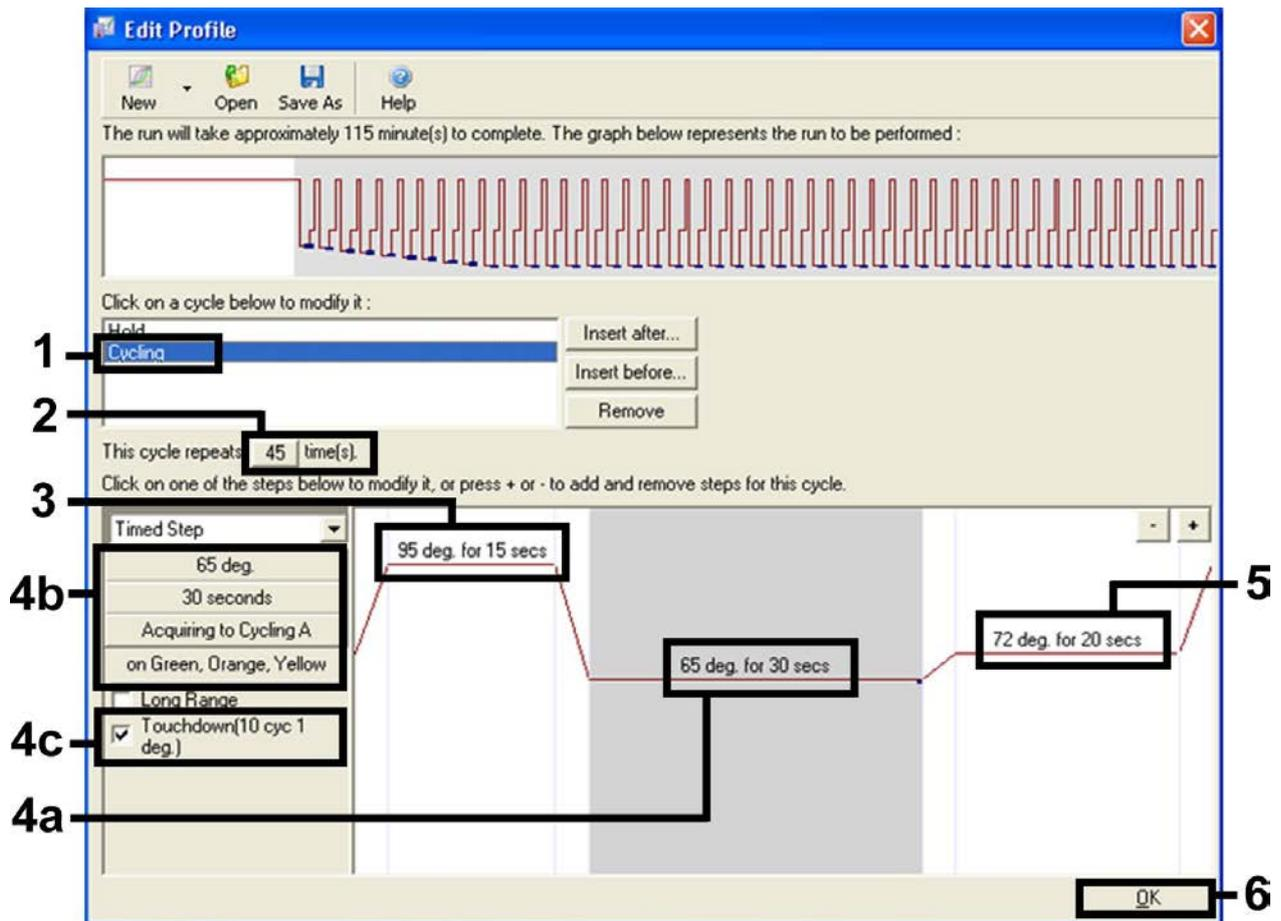
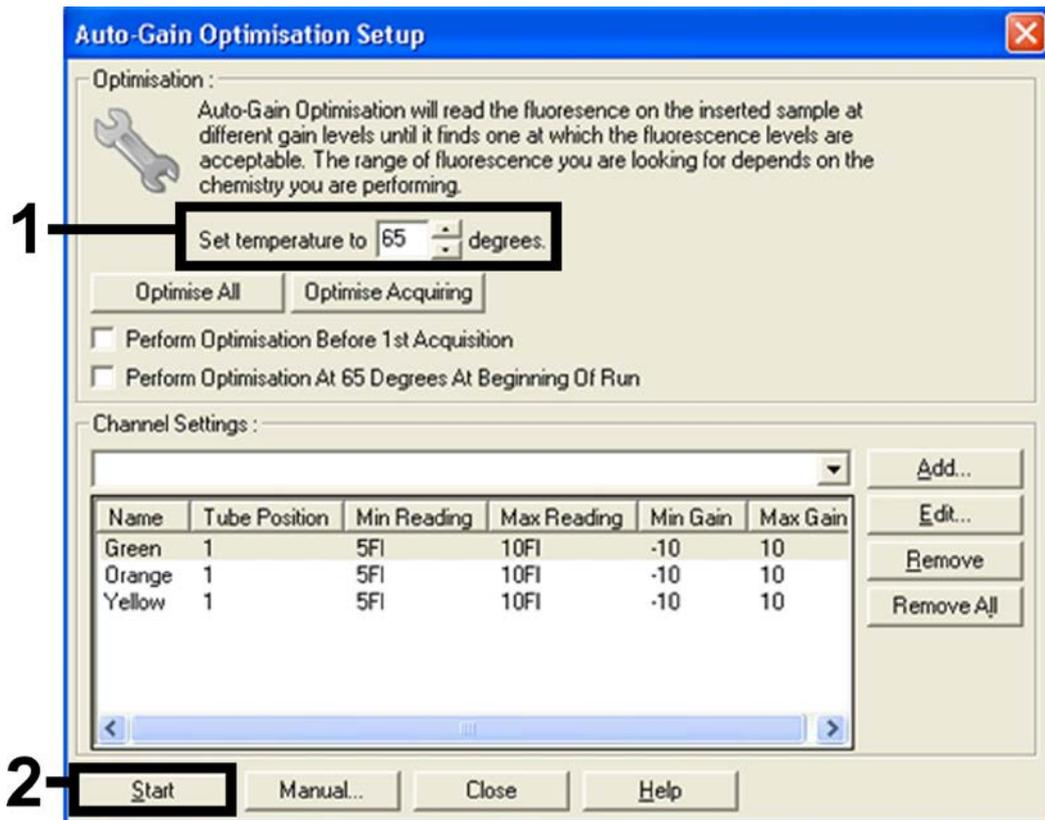

Figure 7. Amplification of the DNA. Make sure to activate the touchdown function for 10 cycles in the Annealing step.
Figure 8. Adjusting the fluorescence channel sensitivity.
Amplification of the DNA	Figure 7
Adjusting the fluorescence channel sensitivity	Figure 8
9. The detection range of the fluorescence channels has to be determined according to the fluorescence intensities in the PCR tubes. Click "Gain Optimisation" in the "New Run Wizard" dialog box (see , Step 2) to open the "Auto-Gain Optimisation Setup" dialog box (Figure 8). Set the calibration temperature to 65 to match the annealing temperature of the amplification program (Figure 7, Step 4b). Make sure that all three channels (Green, Orange, and Yellow) are selected for "Auto-Gain Optimisation". (Find channels in the drop down menu under "Channel Settings" and click "Add".) Click "Start" to begin the gain optimization. Click "Close" of the "Auto-Gain Optimisation Setup" dialog box when the gain calibration is completed.